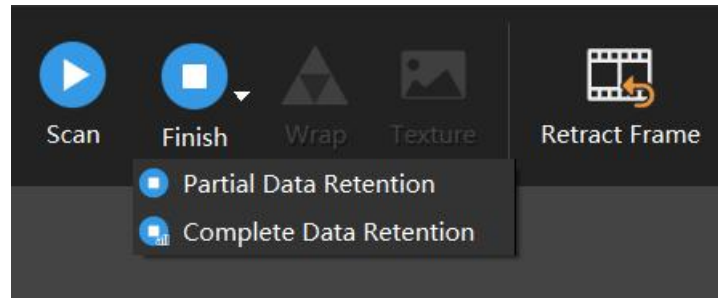

Figure 8-2 Point Cloud Processing Option
2. Below the "Finish" button, there are two options: "Partial Data Retention" and "Complete Data Retention". When processing data, the software defaults to "Partial Data Retention", as shown in Figure 8-2.